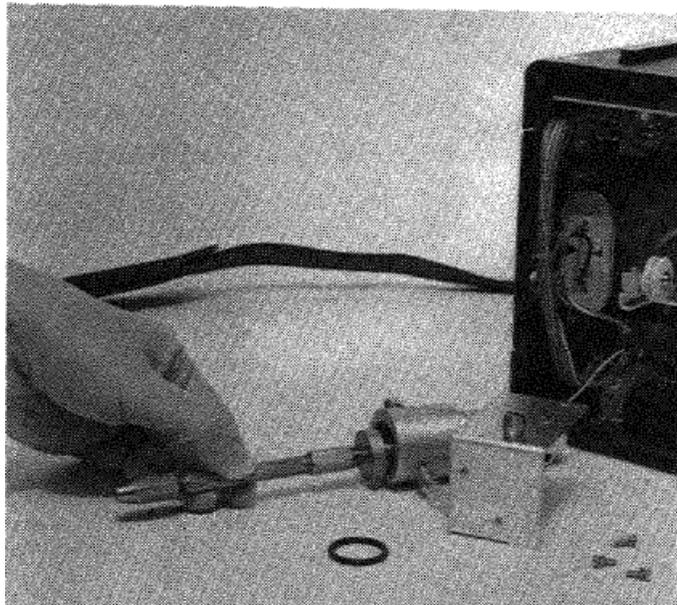

Figure 36. Removing the pump rotor and vanes
- Step 5.** Remove the O-ring and use the pin vise (provided) to pull the pump rotor out of the housing (Figure 36). The four carbon vanes should fall out of the rotor. If this method does not work, use the alternate method that follows.